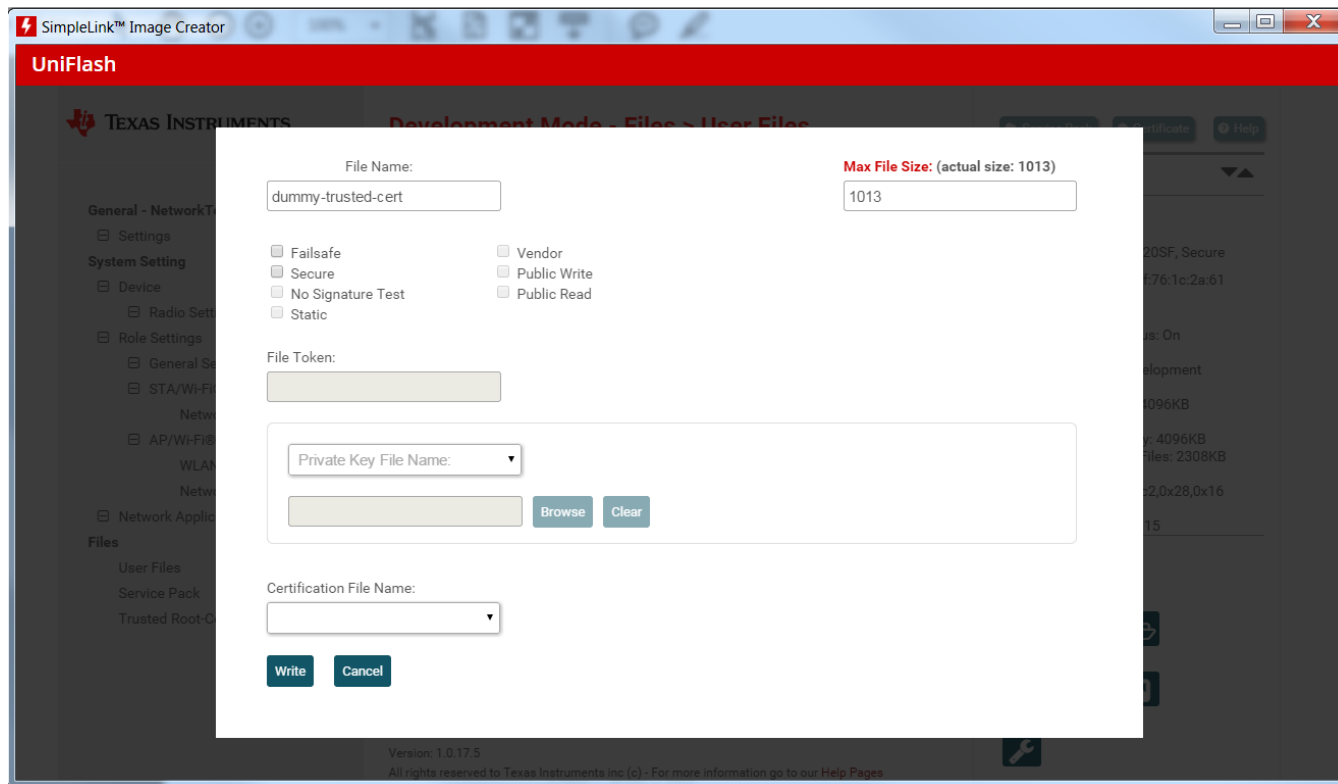

Figure 2-12. Select Certificate File
4. Select the following certificate files from `<sdk-installation>\tools\certificate-playground` and click Write, as shown in Figure 2-12. Repeat this operation for each certificate file (that composes a chain of trust):